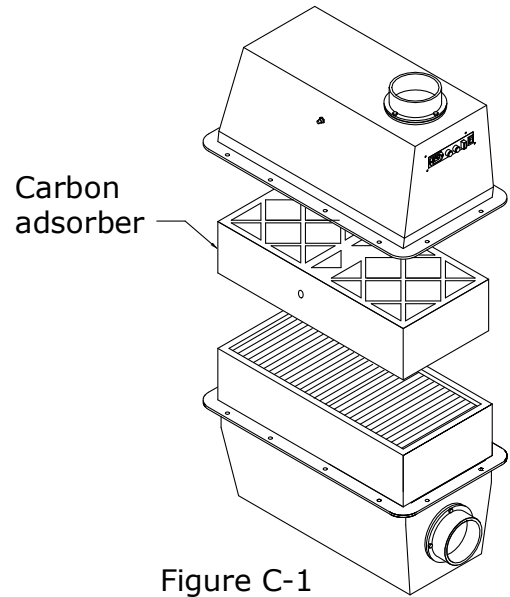
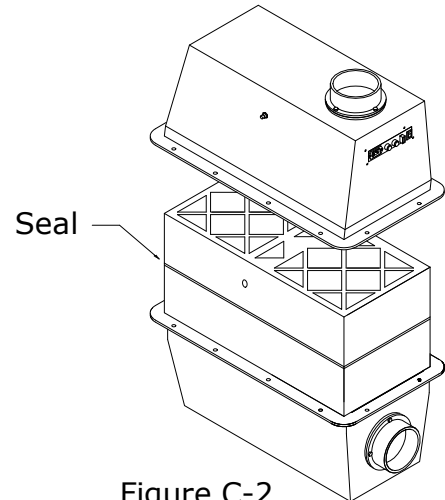

Figure C-1
Figure C-2
4. Place the carbon adsorber carefully and squarely over the HEPA face shown in figure C-1. Ensure that the rubber seal surfaces of the filter gaskets are squarely mated as shown in figure C-2.